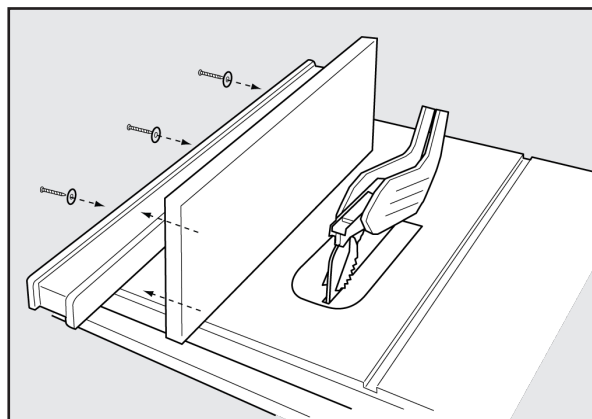

FIGURE 31
Bevel crosscutting is the same as crosscutting except the bevel angle (A) is set to an angle other than 90°. When making a bevel crosscut, place the miter gauge in the right miter slot so that the blade is tilted away from the gauge and hands. See Figure 31.
Use an auxiliary rip fence facing when needed for special cuts, such as ripping material that is thin enough to slide under the rip fence provided with your saw, or when a taller rip fence is necessary to complete your cut. To add an auxiliary wood facing to one or both sides of the rip fence, select a piece of wood with smooth surfaces. Attach the wood to the rip fence with two clamps. (See Figure 31) For most work, 3/4-inch (19mm) or 1-inch (25mm) stock is suitable.